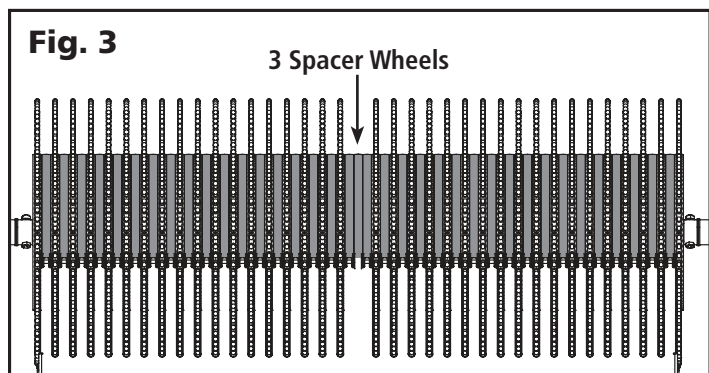

Fig. 3
- (Fig. 3) Remove the Ejector Bar Assembly from Cyclone Nut Rake Frame by unscrewing the two 5/16" mounting screws that are located between the third and fourth fin on each side of Ejector Bar Assembly.
- When adding 1 Spacer Wheel between the pickup wheels add **3 spacer wheels after the 18th pickup wheel**. (Fig. 3)